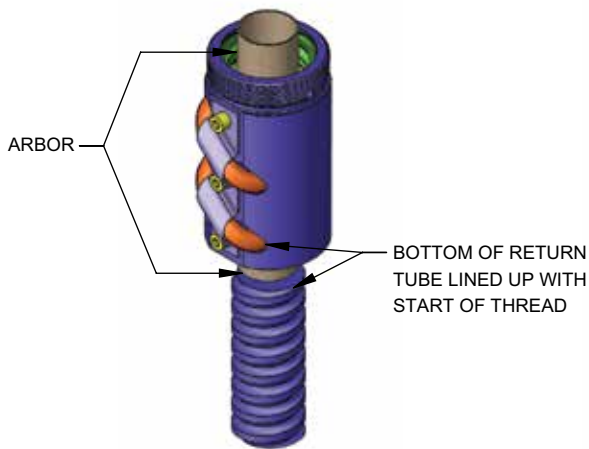

FIGURE 2
- 2 Butt the assembly onto the end of the screw while continuously holding the arbor (cardboard tube) steady. Align the bottom of the return tube with the beginning of the first thread. Do not allow arbor to come out of contact with screw thread. Failure to do so could result in the loss of balls from within the assembly. (See figure 2).